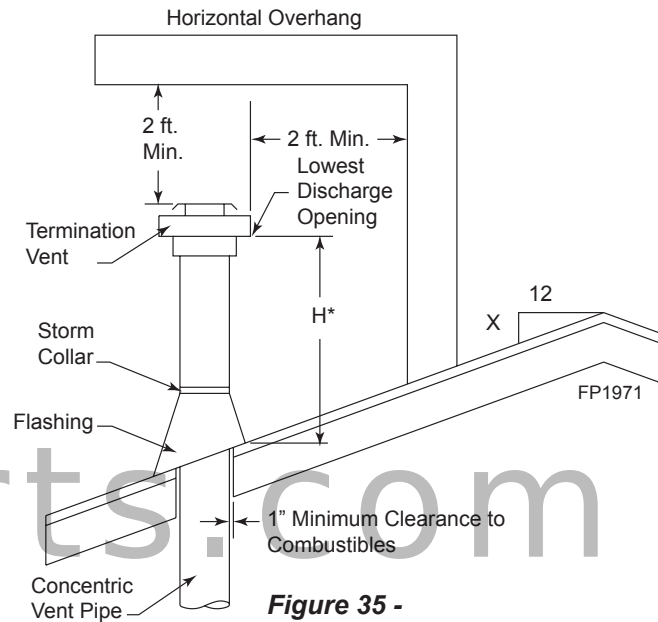

Figure 35 -
- For the minimum height of the vent above the highest point of penetration through the roof refer to Page 24, *Figure 35*.
6. Continue to add pipe sections until the height of the vent cap meets the minimum requirements as shown in Figure 35.